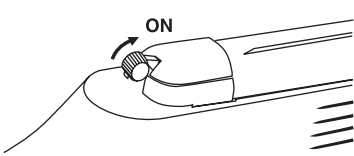

Fig 1
- To set the safety to 'ON', push safety button upwards. In this position, the trigger cannot be pulled and the gun cannot be fired. (Fig.1)
**! CAUTION: Until you are actually ready to shoot, keep the safety button in the "ON" position (Fig. 1).**